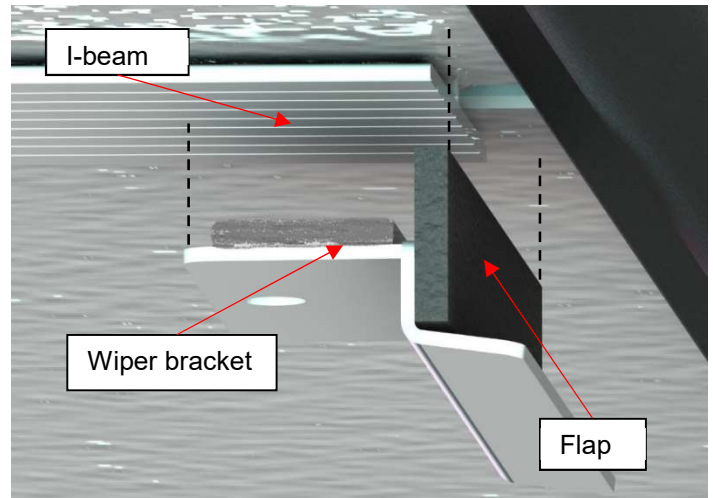

Figure 114
- 3) Under the cover locate an I-beam and orient the wide flap of the wiper bracket outwards of cover (Figure 114).